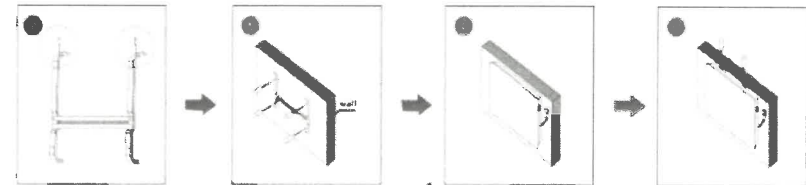

Fig.2
Wall-mounting (Fig. 2)
- If you have found a suitable place for this device, mount now by means of provided screws and dowels the heater on the wall. Consider the instruction steps shown in Fig. 2, Images 1- 4
- (1) Uninstall the bracket from the back side of body. Unscrew the two upper screws from the wall bracket and carefully remove the bracket, see image 1.
- (2) Drill the holes at each side on the wall, and then insert the plastic expanded plugs within. The diameter of the holes should just tightly contain the wall plug.
- (3) Fix the bracket in the wall with screw, see the image 2. Please make sure that you choose the distance between dowel and screw head so that the device can be mounted with an even wall distance. Fit the heater into suitable position ensuring that the holes align with bracket. Carefully hang the device into the wall bracket, see image 3.
- (4) Tight the screws on the top of bracket to catch steady. Double check the heater is firmly hanged on the wall. Please pay attention, that the heater is mounted in even and firmly horizontal position. Do not use the heater if the device not fix mounted on the wall or in uneven position.